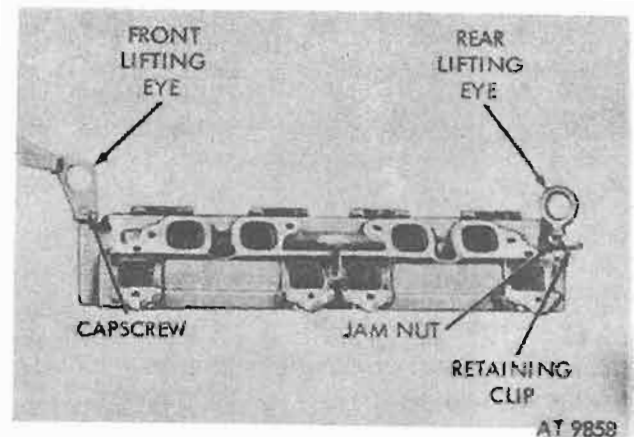

Figure 4-130. Front and rear engine lifting eyes.
f. *Remove Engine Lifting Eyes* (fig. 4-130). Remove two hex-head capscrew and washer assemblies securing front lifting eye to cylinder head. Loosen hex-head jam nut securing vacuum line retaining clip and engine rear lifting eye to cylinder head. Screw engine rear lifting eye out of cylinder head. Check lifting eyes and attaching parts for cracks, bends, and damaged threads.
a. *Install Engine Lifting Eyes.* Assemble engine front lifting eye to cylinder head with two 5/16-18x3/4 hex-head capscrew and washer assemblies. Tighten screws 10-15 lb-ft torque. Assemble hex-head nut and vacuum line retaining clip to engine rear lifting eye, and screw lifting eye into cylinder head until it bottoms. Position lifting eye and vacuum line retaining clip and tighten hex-head nut firmly. Refer to figure 4-130.